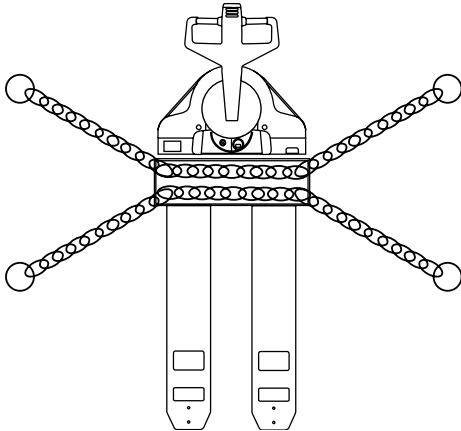

Figure 2-1. Tie-Down for Transport
5. Position the chain ends of one chain toward the front of the vehicle bed and the chain ends of the other chain to the back of the vehicle bed and draw taut. See Figure 2-1.